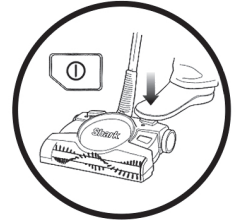

Fig. 3
- 3 Using your foot, press the power button and push the unit forward over the surface you wish to clean. (fig. 3)
- 1 Always make sure that the unit is turned off. (Fig. 3)